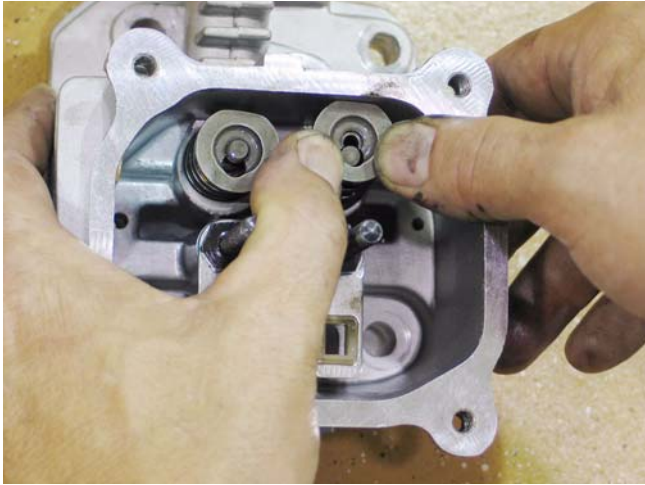

Figure 12.13
12.13. For inspection purposes, the valve retainers can be removed with light finger pressure. See Figure 12.13.